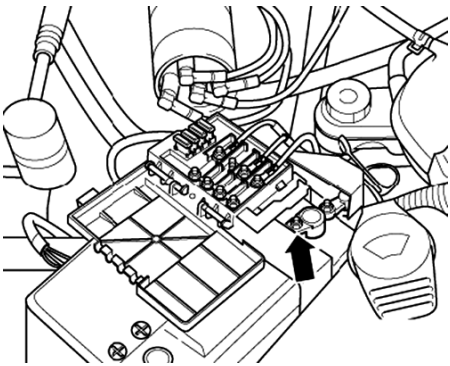

Fig. 6 Positive cable removal
14. Loosen battery positive terminal clamp fastener (arrow), and remove terminal from battery post, **Fig. 6**.